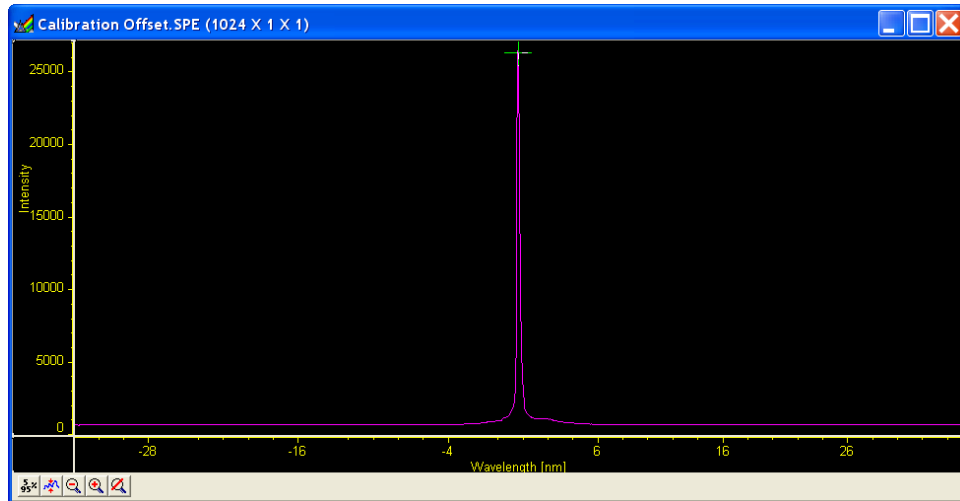

Figure 65. Offset Spectrum for Zero-order Measurement
5. Figure 65 illustrates a typical Offset data acquisition. The reference peak should appear near the center of the display and the cursor should be near or on the highest point of the peak. If the peak is saturated, cancel, lower the exposure time, and repeat the operation. The display X-axis should be calibrated (any units other than pixels). *If the X-axis is calibrated in pixels, select the desired units as the calibration units on the Usage dialog (opened by selecting Usage from the Calibration menu).*